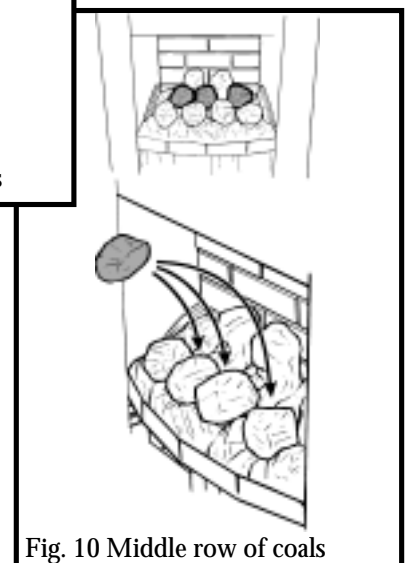

Fig. 10 Middle row of coals
5.3 Place the three remaining coals behind and approximately midway between each of the coals in the front row (See figure 10).